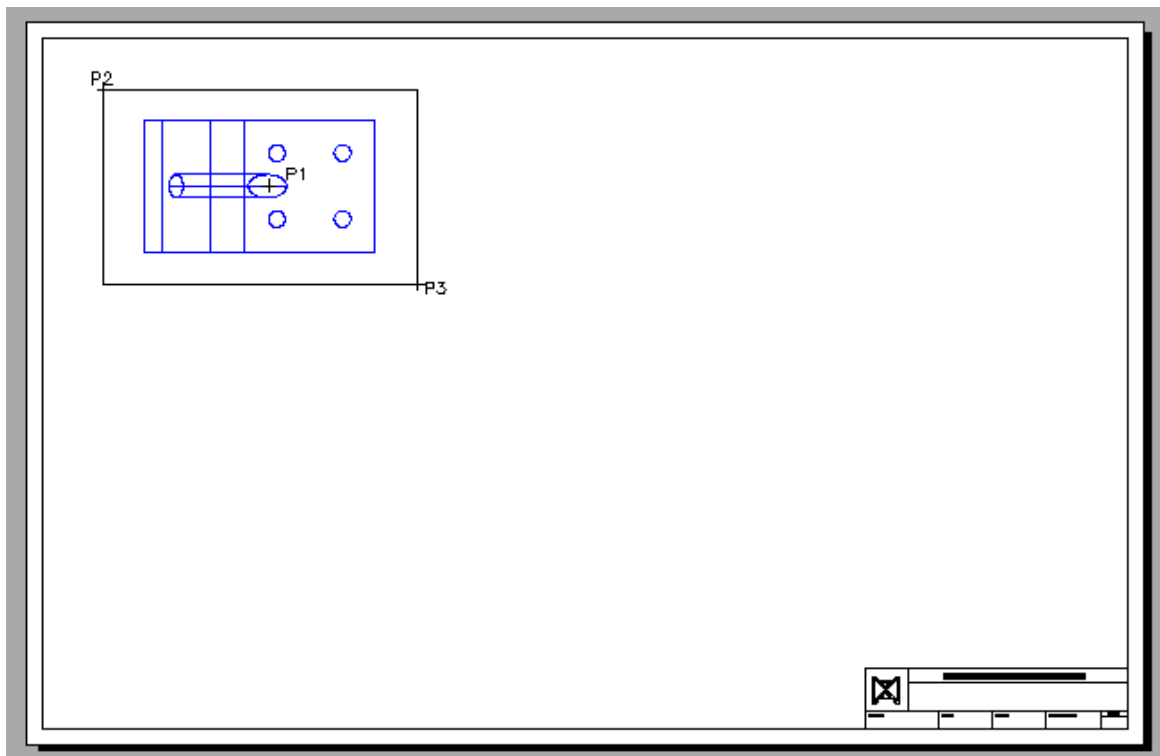

Figure Step 9
Step 9 Enter the SOLVIEW command, as shown below, to create the top view of the model. Name it: Top. (Figure Step 9)